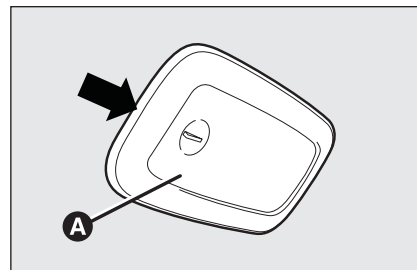

fig. 38
- ☐ remove the light unit **A**-fig. 38 levering in the point shown by the arrow;